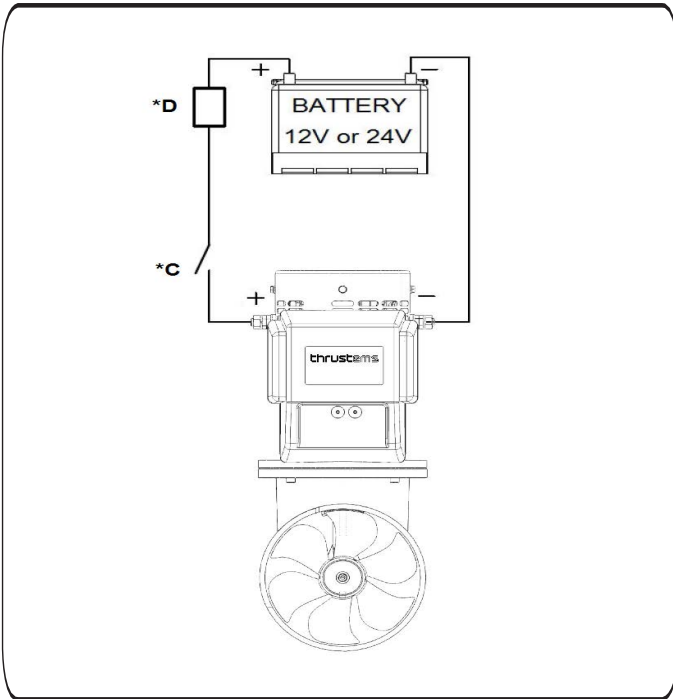

Figure 7
- As shown on Figure 7, the positive cable from the battery must be connected to the motor where the “+” sign is indicated. The negative cable from the battery must be connected to the motor where the “-” sign is indicated.
- We recommend the installation of a main switch in the main positive lead (denoted by \*C in Figure 7) which will allow the power to the thruster to be turned off when not on board or in emergencies. This should be installed in an accessible place as close as possible to the energy source.
- It is also advisable to install a fuse in the positive lead (denoted by \*D in Figure 7) to protect against short circuiting of the main cables. The fuse should be of the “slow blow” type and sized to take the amperage draw of Standard Series thrusters for at least 5 minutes and of Performance Series Thrusters for about 12 minutes. Select only high-quality fuses to ensure less voltage drop.